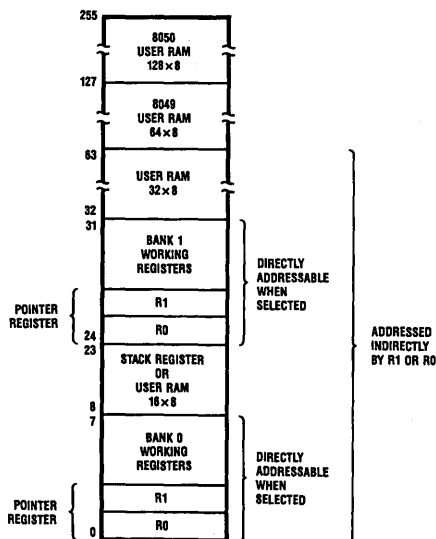

FIGURE 3. 8048-Series Resident RAM Data Memory Map
The resident RAM data memory is arranged as 64 (INS8035/8048), 128 (INS8039/8049), or 256 (NS8040/8050) bytes. RAM addressing is implemented indirectly via either of two 8-bit RAM pointer registers R0 and R1. These pointer registers are essentially the first two locations in the RAM (see Figure 3), addressing 00 and 01. RAM addressing may also be performed directly by 11 direct register instructions. The register area of the RAM array is made up of eight working registers that occupy either the first bank (0), locations 0 to 7, or the second bank (1), locations 24 to 31. The second bank of working registers is selected by using the Register Bank Switch instruction (SEL RB). If this bank is not used for working registers, it can be used as user RAM.